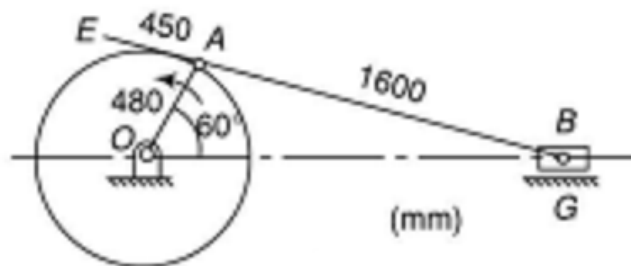

Figure 3 (c)
- c. For the configuration of a slider-crank mechanism shown in Figure 3 (c), calculate the; 14 L3 CO2 PO2,3